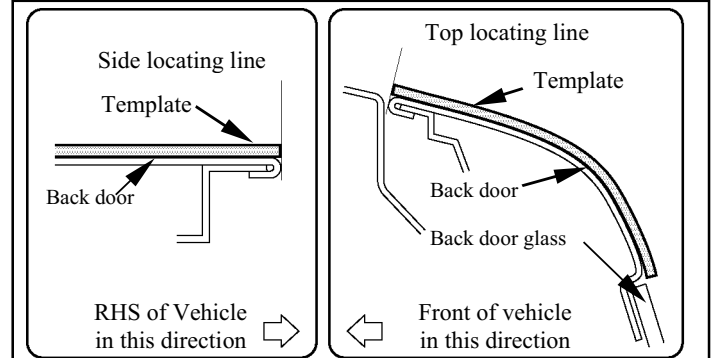

Fig. B-1
-  1. Align right hand side paper template as shown in Fig. B-1.